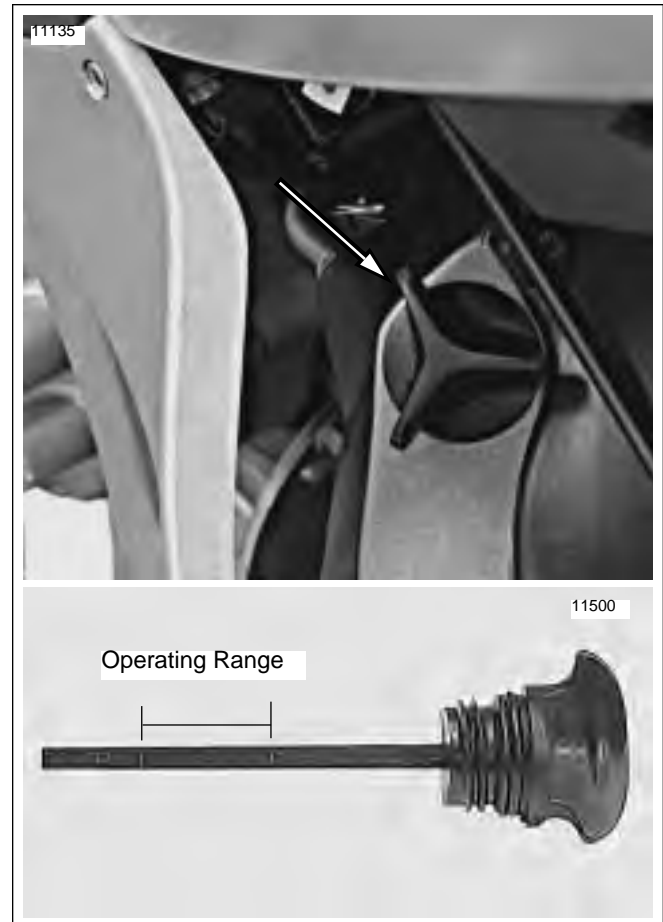

Figure 1-4. Dipstick Location/Engine Oil Level
2. See Figure 1-4. Unscrew and remove dipstick from oil tank/swingarm filler hole. Wipe dipstick clean.
4. See Figure 1-4. Unscrew and remove dipstick and note oil level.